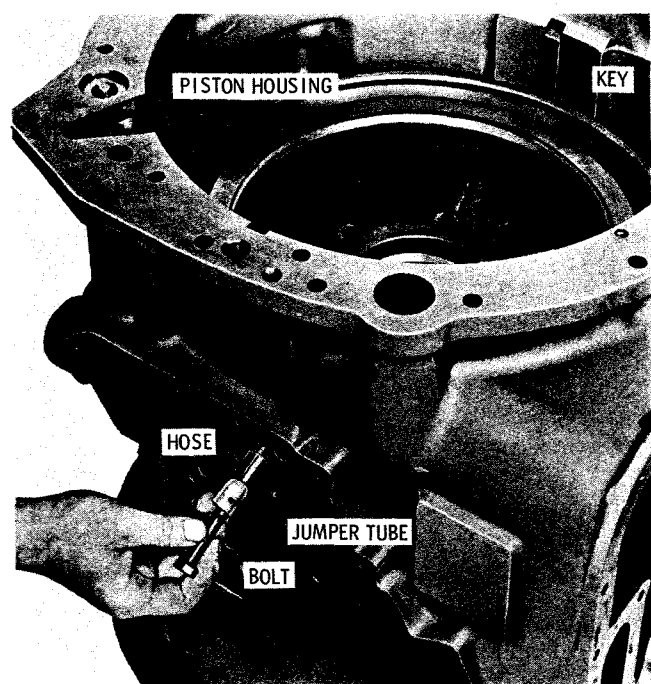

Fig. 5-82. Removing high-splitter clutch jumper tube and hose
(7) Using a bolt, remove the splitter overdrive oil jumper tube and hose (fig. 5-82). Remove two clutch anchor keys. Remove, as a unit, the high-splitter clutch piston and housing. Refer to paragraph 6-32 for rebuild of the piston and housing assembly, and to paragraph 6-33 for rebuild of the transmission housing assembly.